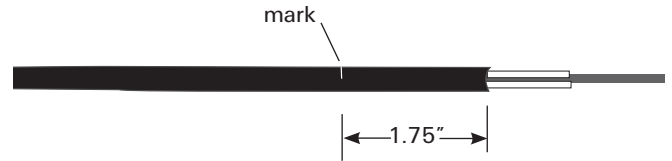

Figure 1
2. Mark the cable sheath 1.75" from the sheath ring cut. (Figure 1)